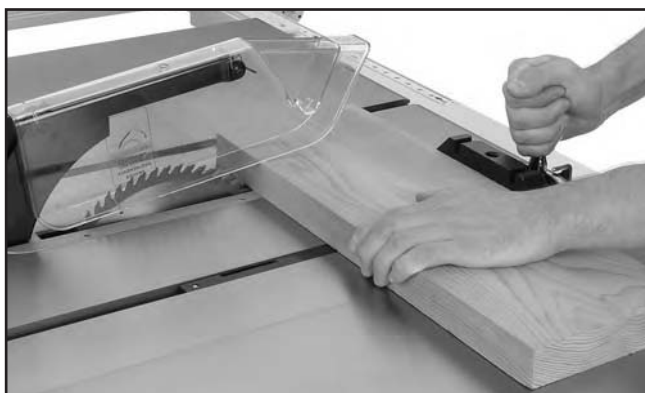

Figure 60. Example of crosscutting operation.
7. Hold the workpiece firmly against the face of the miter gauge (see **Figure 60**), and ease it through the blade until the workpiece is completely past the saw blade.